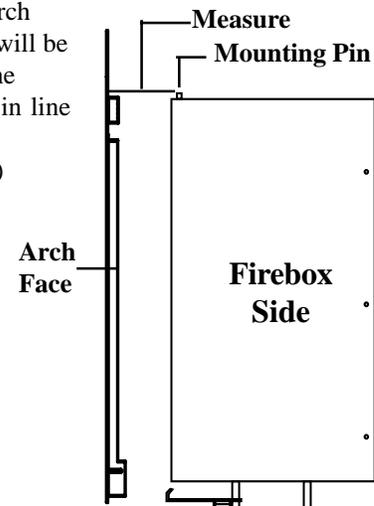

Figure 2 - Measuring distance between mounting pin and arch face
3. Measure from the mounting pin on the firebox to front edge of the arched face. (See Figure 2)